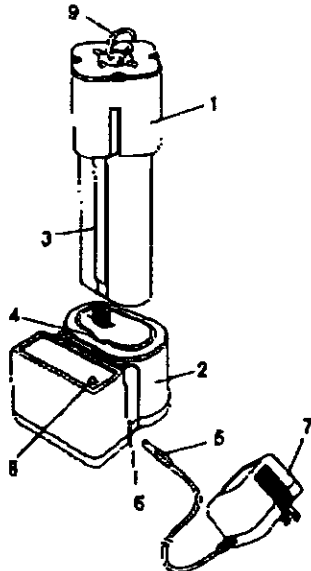

Fig. 1
2. Insert the battery (1) into charging stand (2) (see Fig. 1).
- a) Make sure the key (3) on the battery slides into the slot (4) in the charging stand.
3. Plug the small battery charger plug (5) into the receptacle (6) in the side of the charging stand.
4. Plug the battery charger (7) into the 110-120V/60Hz wall receptacle.
**NOTE:** The red indicator light (8) will come ON indicating the battery is charging. The red light will remain ON as long as the battery is in the charger. If indicator light does not come ON, check to make sure battery is inserted fully into the charging stand with the key & slot matching and the electrical outlet is "live".